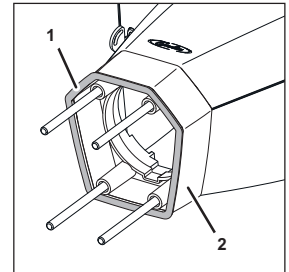

Fig. 11
- Position the sealing lip (Fig. 11/1) on the stand booster (Fig. 11/2).